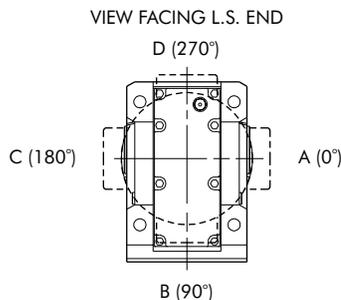

FIGURE 4
- Determine appropriate position that motor conduit box must be in once motor is assembled to basic housing. Refer to Figure 4, Page 4. Slide motor shaft into high speed motor adapter, aligning key of shaft with keyway in motor adapter bore.
11. Determine appropriate position that motor conduit box must be in once motor is assembled to basic housing. Refer to Figure 4, Page 4. Slide motor shaft into high speed motor adapter, aligning key of shaft with keyway in motor adapter bore.
11. Determine appropriate position that motor conduit box must be in once motor is assembled to basic housing. Refer to Figure 4 below. Slide motor shaft into high speed motor adapter, aligning key of shaft with keyway in motor adapter bore.